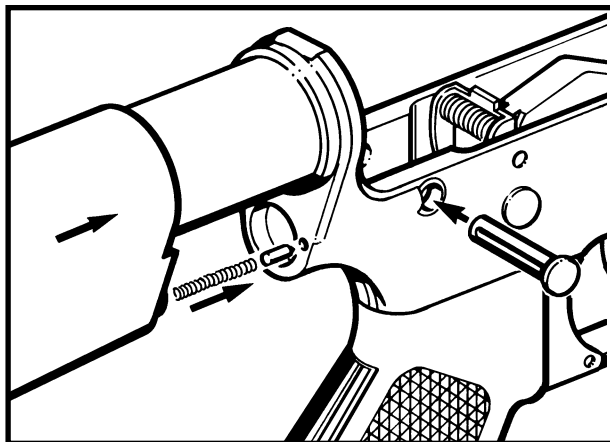

Figure 3-2-57 Replacing the Butt Assembly
- g. Insert the detent and spring into the hole in the rear of the lower receiver. See Figure 3-2-57;